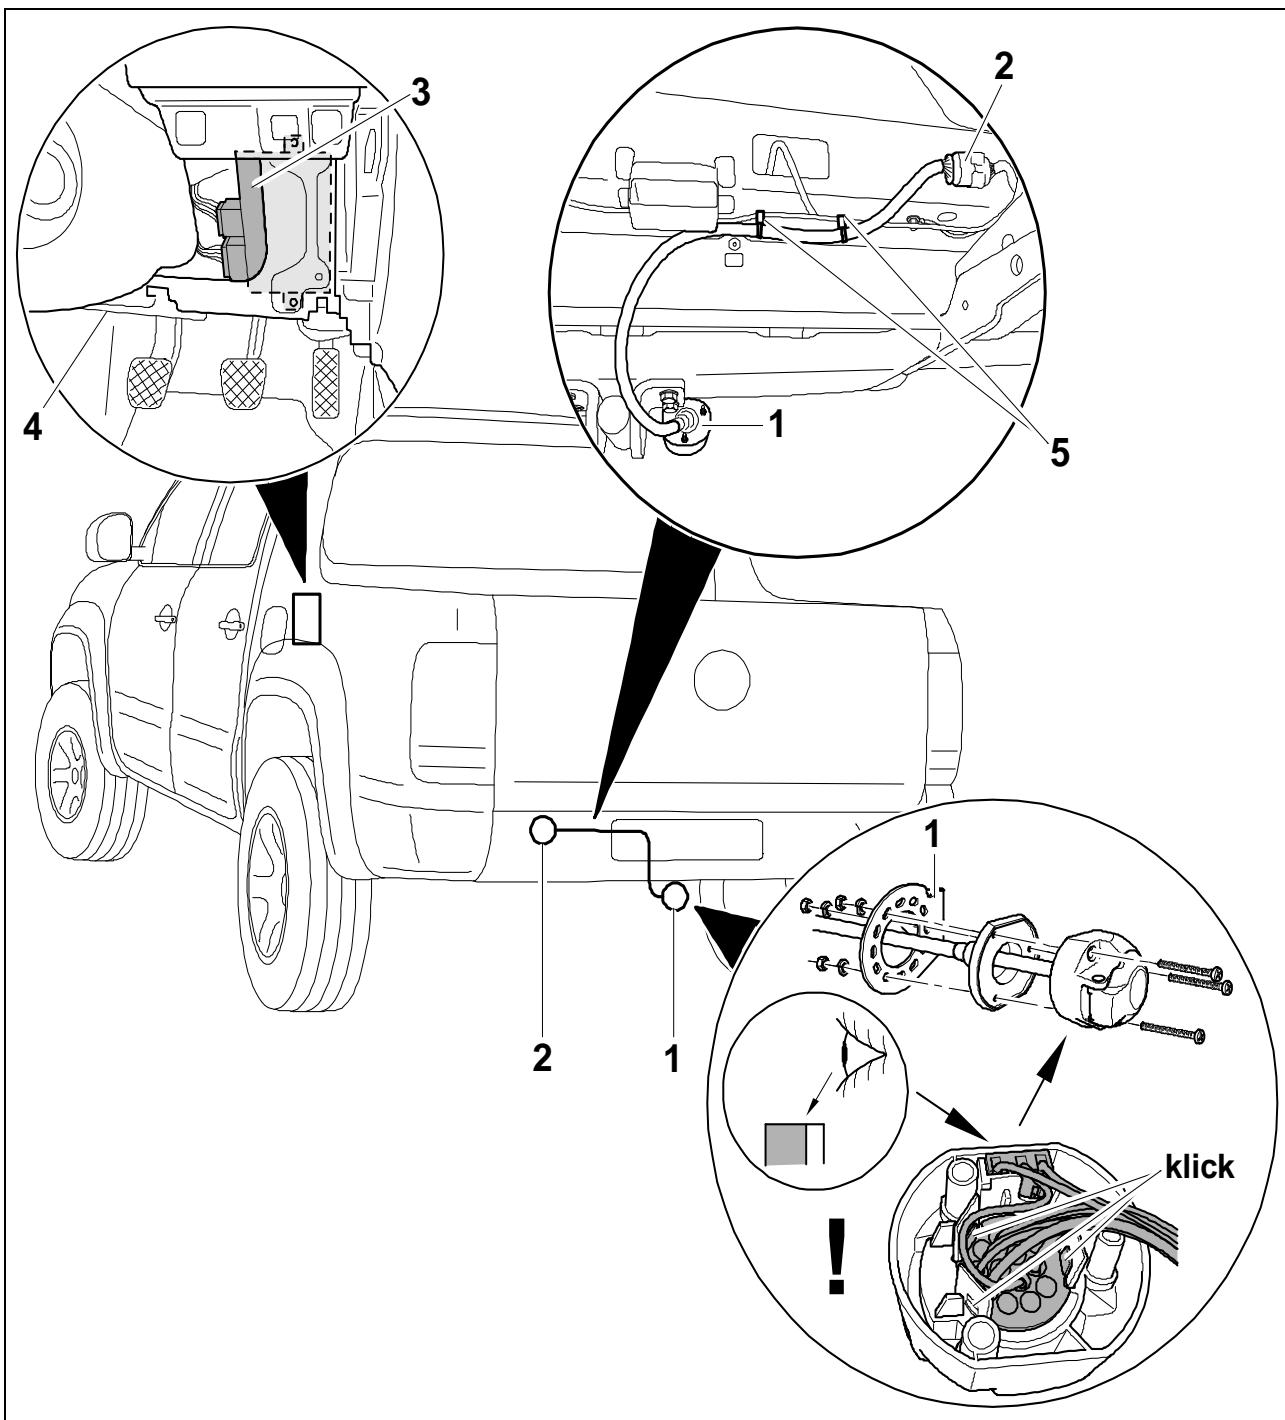

Fig. 1: Installation overview
3. Mount the trailer connection unit at the intended location with the screws and nuts provided, torque setting: max. 2.0 Nm (Fig. 1/3).
4. Connect the vehicle-side 12- and 16-pole connector (above the throttle in the foam on the vehicle-side wiring harness) to the trailer connection unit and click together (Fig. 1/3).
5. Feed the 7-pole contact holder and mikroswitch-housing through the hole in the tow coupling cross tube or the socket mounting (Fig. 1/1).
8. Screw the socket to the cross tube or socketed mounting (Fig. 1/1) using the screws supplied, torque setting: max. 2.0 Nm.
9. Lay the end of the cable with the 14-pole socket to the coupling/mating connector at the coupling point (Fig. 1/2) at the rear of the cargo bed.
11. The cable ties with which the cable leading to the number plate light is fixed to the tucker bolts must be removed (Fig. 1/5).
12. Using the cable ties (with base) supplied, connect the wiring harness as well as the cable leading to the number plate light and secure to the tucker bolts with the base. (Fig. 1/5).
13. Insert 5 A fuses provided into fuse positions 60 and 61 (Fig. 1/4).